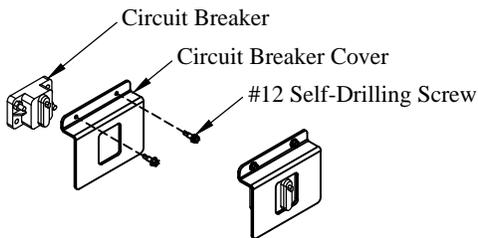

Figure 13: Circuit breaker cover.
22. **Install** the plastic circuit breaker cover over the circuit breaker using the supplied #12 self-drilling screws (Figure 13).